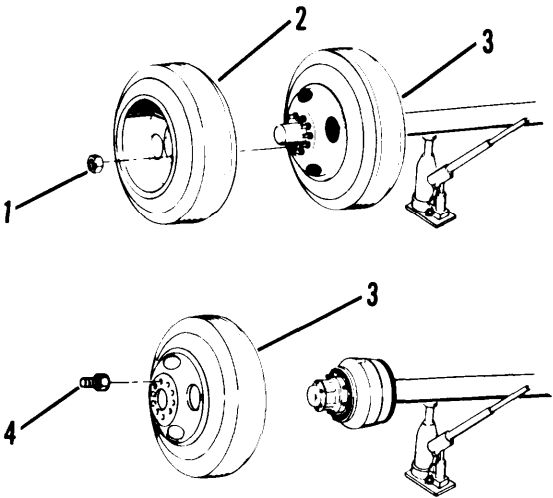

Figure 3-7. Jacking and Tire Removal
- (3) Position jack under axle closest to where tire(s) will be removed (fig. 3-7).